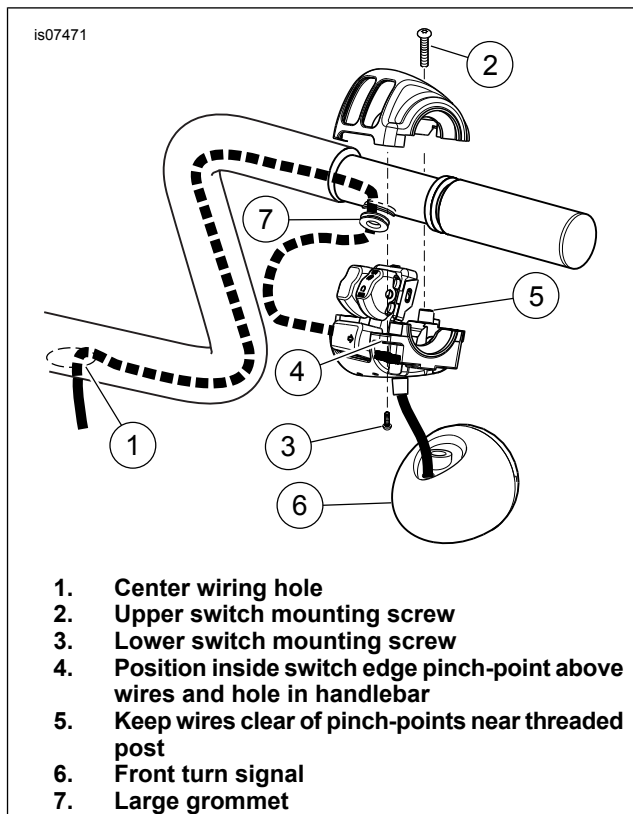

Figure 2. Switch Housing Wire Routing
See Figure 2. Verify that the large grommet (7) has been positioned on the switch and turn signal wire bundle, close to the switch end.